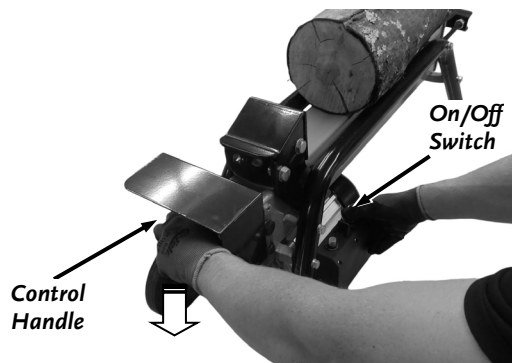

Figure 10
2. Using only your hand, pull the Control Lever down (**Figure 10**). If the log moves before it is contacted by the Ram, release the Handle, and then reposition the log.